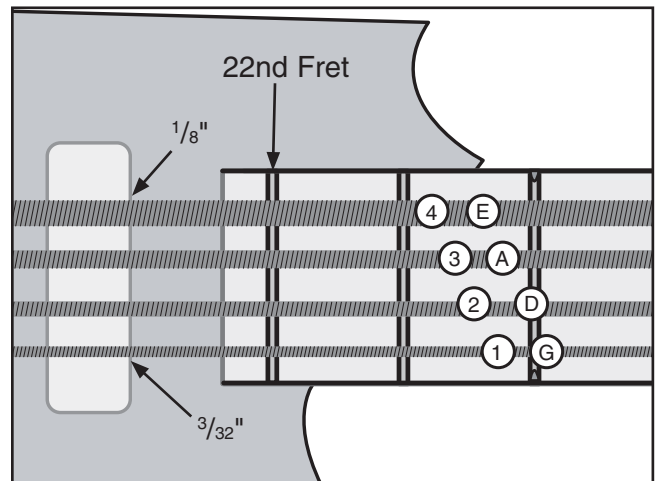

Figure 36. String heights over the pickup.
- Measure the height of the 1st (G) and 4th (E) strings at the pickup while the strings are “fretted” at the 22nd fret (**Figure 36**).